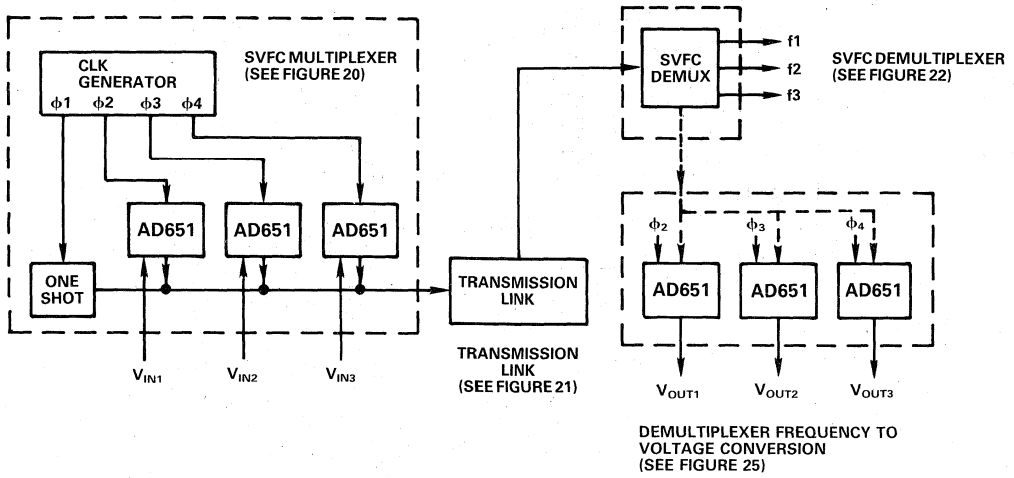
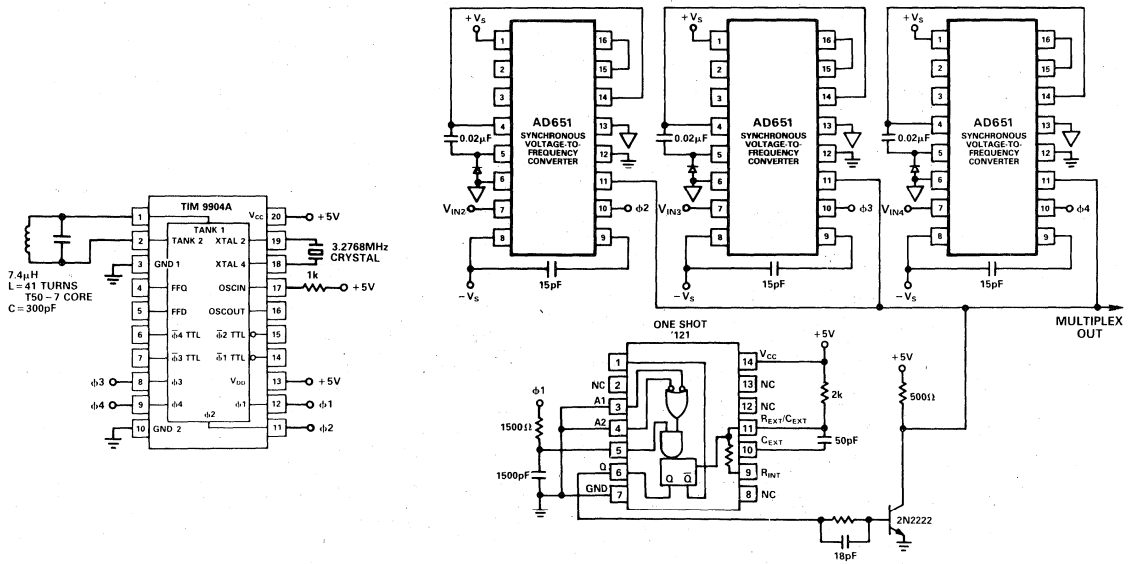

Figure 19. Single Line Multiplexed Data Transmission Block Diagram
Figure 20. SVFC Multiplexer
It is often necessary to measure several different signals and relay the information to some remote location using a minimum amount of cable. Multiple AD651 SVFC devices may be used with a multiphase clock to combine these measurements for serial transmission and demultiplexing. Figure 19 shows a block diagram of a single-line multiplexed data transmission system with high noise immunity. Figures 20, 21 and 22 show the SVFC multiplexer, a representative means of data transmission, and an SVFC demultiplexer respectively.
Figure 20 shows the SVFC multiplexer. The clock inputs for the several SVFC channels are generated by a TIM9904A four phase clock driver, and the frequency outputs are combined by strapping all the frequency output pins together (a "wire or" connection). The one-shot in the AD651 sets the pulse width of the frequency output pulses to be slightly shorter than one quarter of the clock period. Synchronization is achieved by applying one of the four available phases to a fixed TTL one-shot (121) and combining the output with an external transistor. The width of this sync pulse is shorter than the width of the frequency output pulses to facilitate decoding the signal. The RC lag network on the input of the one-shot provides a slight delay between the rising edge of the clock and the sync pulse in order to match the 150ns delay of the AD651 between the rising edge of the clock and the output pulse.